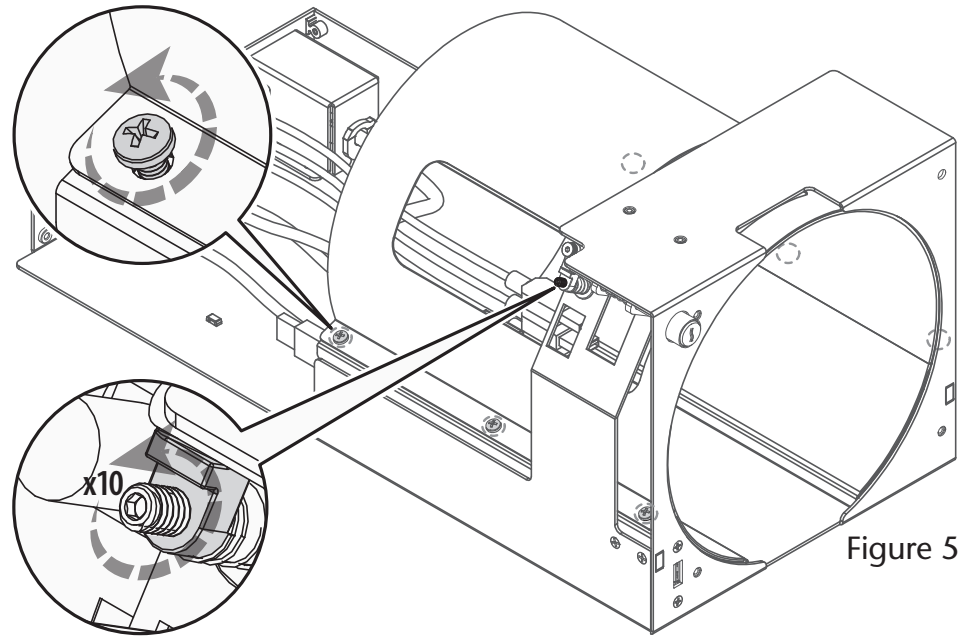

Figure 5
1. Using a Phillips screwdriver, loosen, but do not remove, the six screws securing the computer mounting module's top bracket to its bottom bracket (Figure 5).
2. Using the included 5/64-inch hex wrench, back out the computer mounting module's power switch set screw by turning the screw counter-clockwise 10 complete turns (Figure 5).